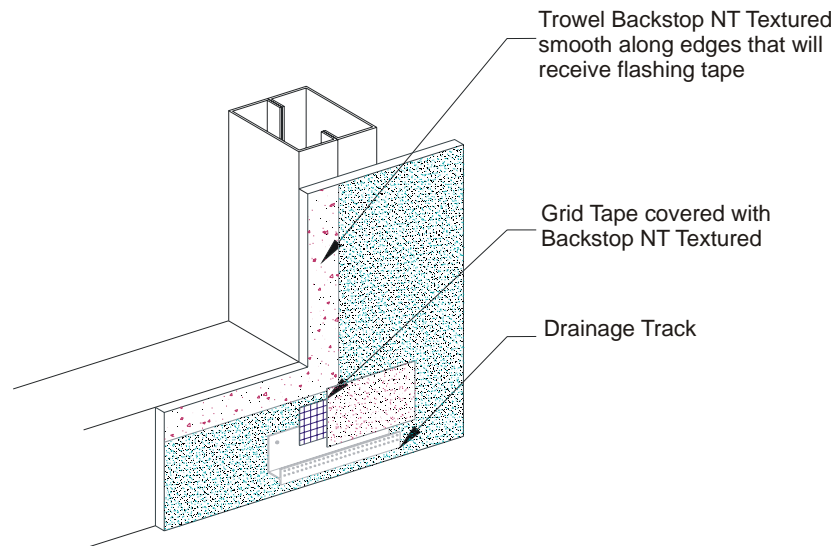

Figure 3
4. While the Backstop NT - Texture is still wet, using a trowel or spatula, smooth out the Backstop NT - Texture around all window and door perimeters, and other areas that will later receive Dryvit Flashing Tape (Fig. 3).
- While the Backstop NT - Texture is still wet, using a trowel or spatula, smooth out the Backstop NT - Texture around all window and door perimeters, and other areas that will later receive Dryvit Flashing Tape (Fig. 3).
- E. For EIF Systems using a Drainage Track along the base of walls, the Backstop NT - Texture may be brought over the vertical leg of the track to direct water into the track. The track is first fastened into the underlying framing using corrosion resistant screws. The track should be wiped clean with an acetone, vinegar or other cleaner to remove any surface oils, dirt, etc. Apply a strip of Grid Tape centered along the top edge of the track. Using a trowel or spatula, apply a layer of Backstop NT - Texture over the Grid Tape, trowel smooth and feather onto surrounding surface (Fig. 3). Ensure that there are no voids in the Backstop NT - Texture material along the top leg of the Drainage Track.